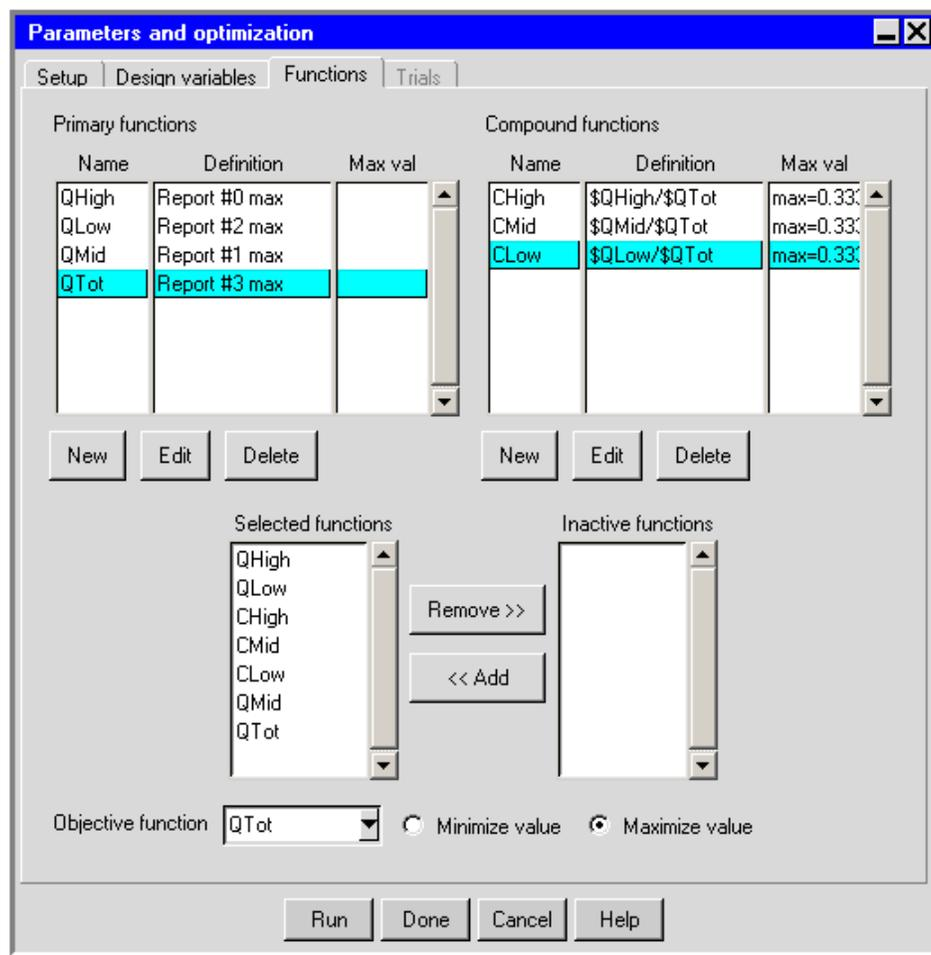

Figure 23.2.3: The Parameters and optimization Panel (Functions Tab)
4. Define functions in the Functions tab of the Parameters and optimization panel (Figure 23.2.3). These functions will be set as objective or constraint functions.
- i. Select one of the previously defined functions from the **Objective function** drop-down list, in the **Parameters and optimization** panel (Figure 23.2.3).
- (a) To make a function inactive, choose the function under **Selected functions** in the **Parameters and optimization** panel (Figure 23.2.3) and place the function in the **Inactive functions** list by clicking the **Remove** button. Note that placing the function in the **Inactive functions** list does not delete the function. Functions placed in the **Inactive functions** list are not reported with the optimization results.